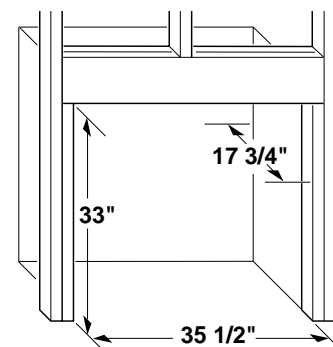
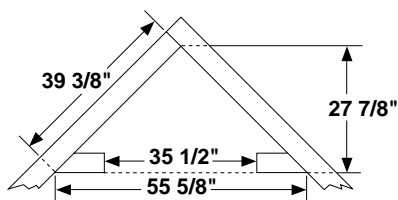

Figure 13 - Rough Opening for Installing in Wall
Figure 14 - Rough Opening for Installing in Corner
- Frame in rough opening. Use dimensions shown in Figure 13 for the rough opening. If installing in a corner, use dimensions shown in Figure 14, page 10 for the rough opening. The height is 33" which is the same as the wall opening above.